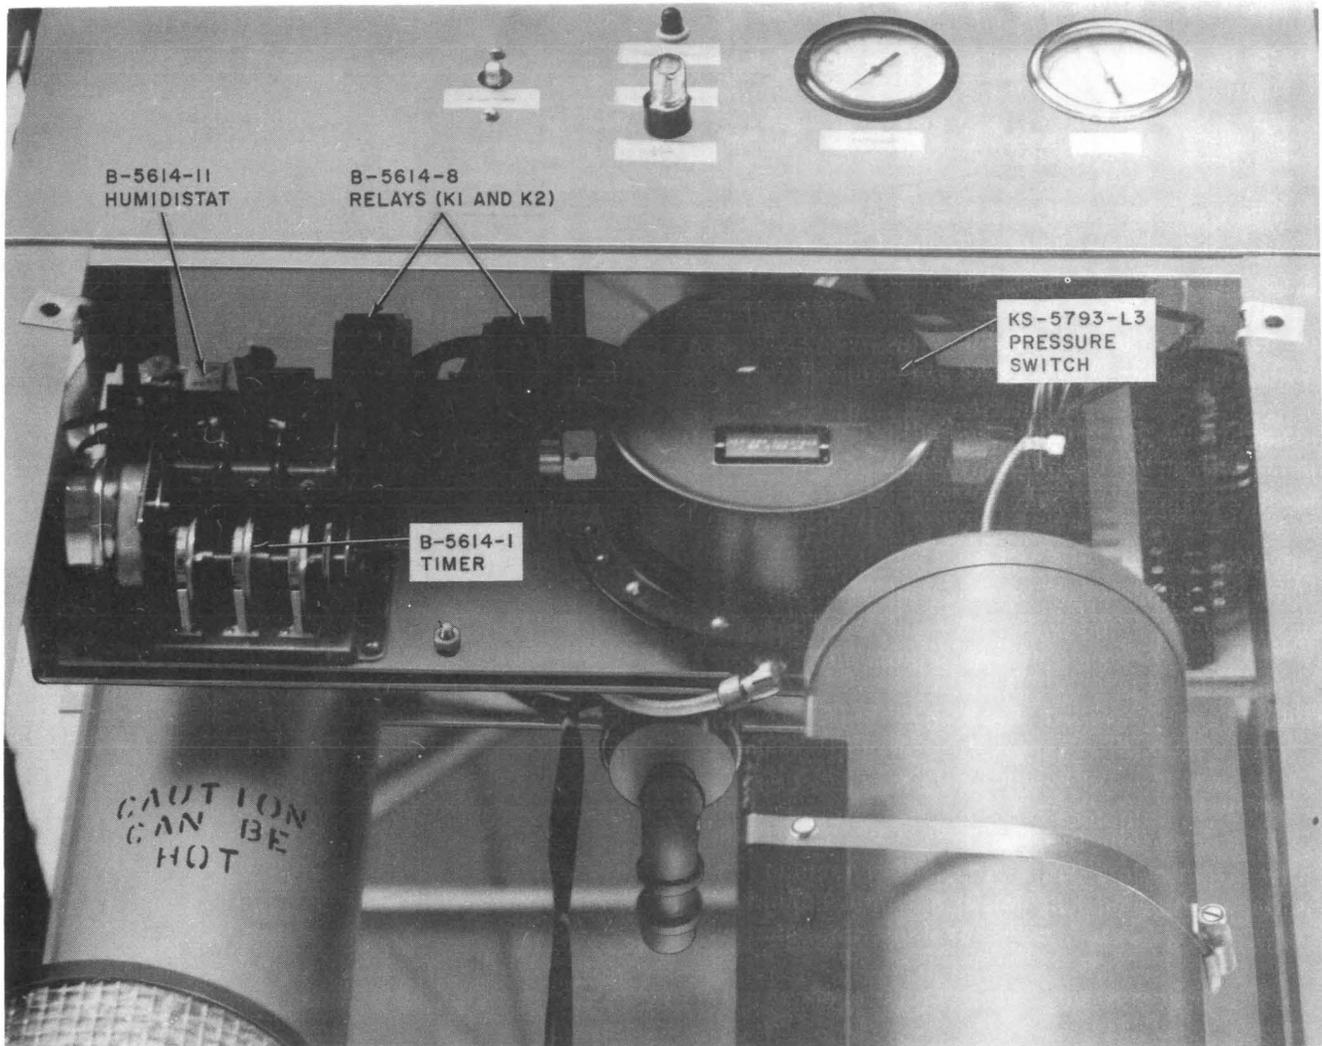

Fig. 6—KS-20183 L2 and L3 Air Dryers—Electrical Panel
- (1) Shut off the dry air supply from the dryer to the waveguide system (for location of valve, check installation drawing).
- (2) Move the ON-OFF switch to the OFF position and disconnect the dryer from the ac power supply.
- (3) Disable the alarm circuit by removing the K1 and K2 relays (Fig. 6).
3.10 The humidistat is removed and replaced as follows (Fig. 6):